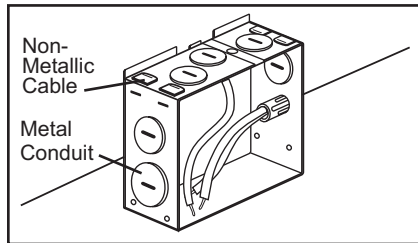

Figure 9
**Step 2.** Remove wiring box cover. Remove the appropriate knock-out(s) to accommodate the type of electrical service to be used/allowed by your local electrical code (Fig. 9):